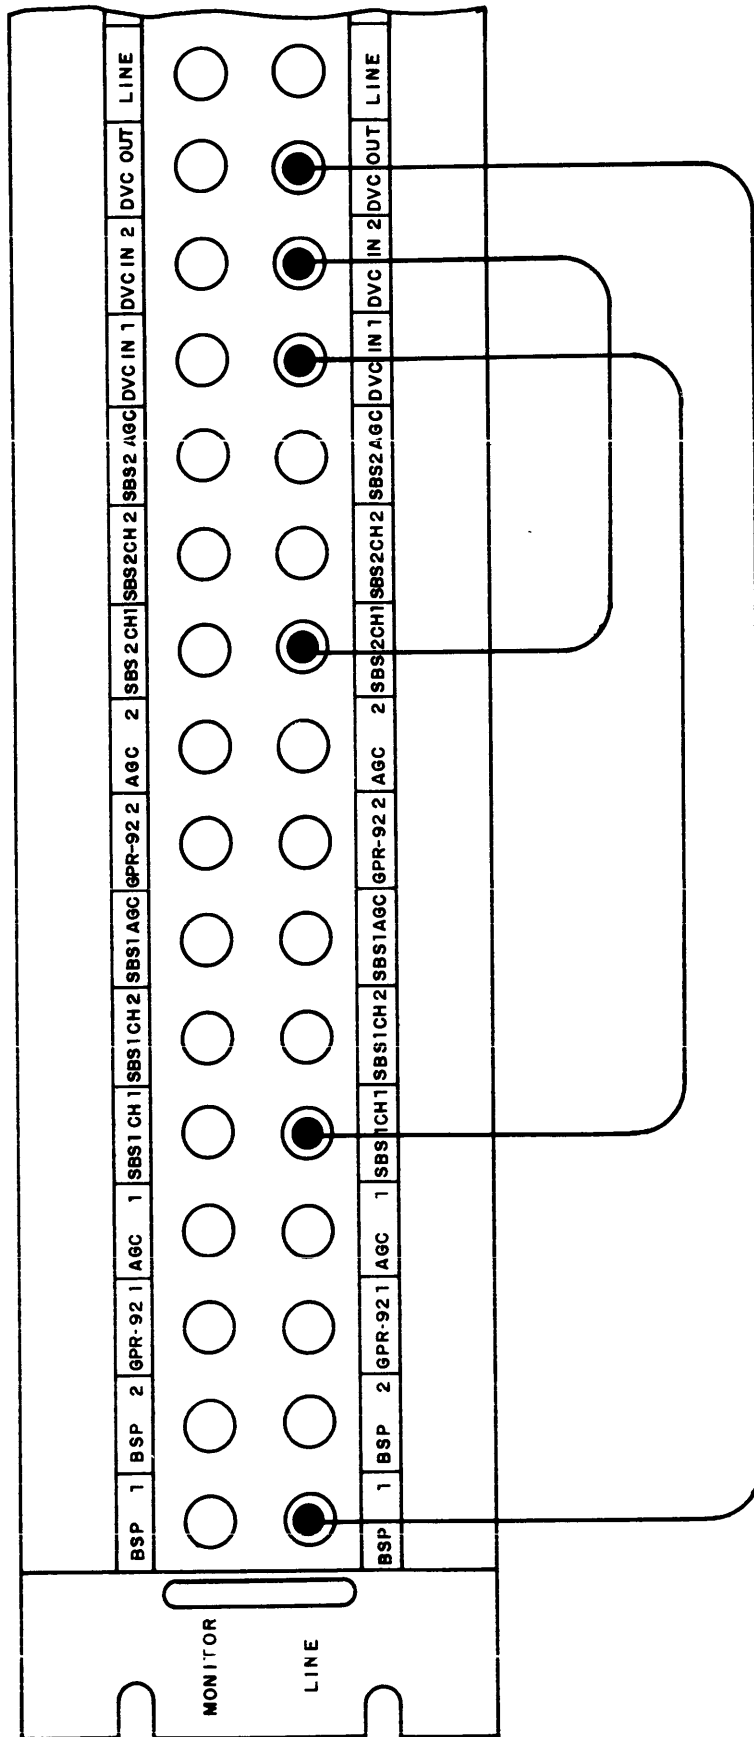

Figure 3-3. Patchcord Connections, SSB Reception
(1) Make patch-cord connections on Line Patch Panel LPP-4 as illustrated in figure 3-3.
(2) Start the DDR-8 as outlined in paragraph 3-3b; disregard all reference to TONE, BFO PITCH, LINE LEVEL, and MODE switches of GPR-92 receivers.
(3) Set IF SELECTIVITY switch (7) of GPR-92 receivers at appropriate 7.5 KC, or 3 KC position in accordance with required bandwidth of received signal.